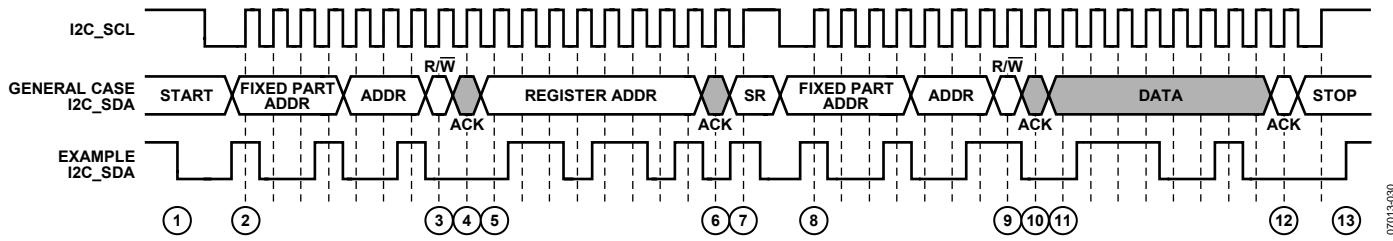

Figure 30. I²C Read Diagram
To read data from the AD8191A register set, an I²C master (such as a microcontroller) needs to send the appropriate control signals to the AD8191A slave device. The signals are controlled by the I²C master, unless otherwise specified. For a diagram of the procedure, see Figure 30. The steps for a read procedure are as follows:
9. Send the read indicator bit (1).
- 13a. Send a stop condition (while holding the I_C_SCL line high, pull the SDA line high) and release control of the bus to end the transaction (shown in Figure 30).